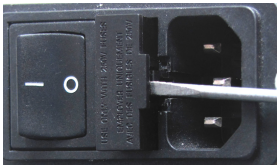

Fig. 2—Insert the screw driver under the fuse housing lip and pry the housing open.
3. Insert a small flat blade screwdriver under the lip on the right side of the fuse housing cover (Fig. 2).